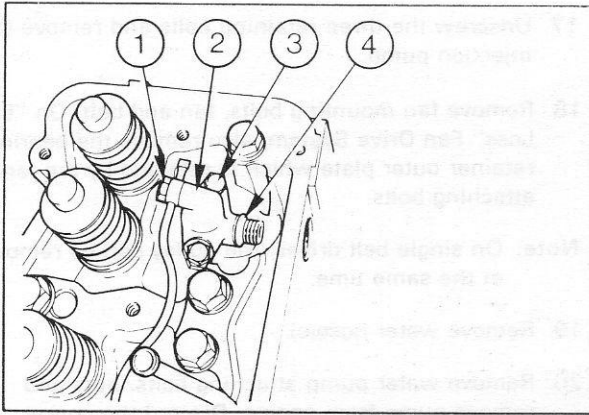

Fig. 11 - Removing Injectors
29. Unscrew two retaining bolts and remove each injector. Discard "O" ring. Remove copper sealing washers from recesses in cylinder head and discard them (Fig. 11).